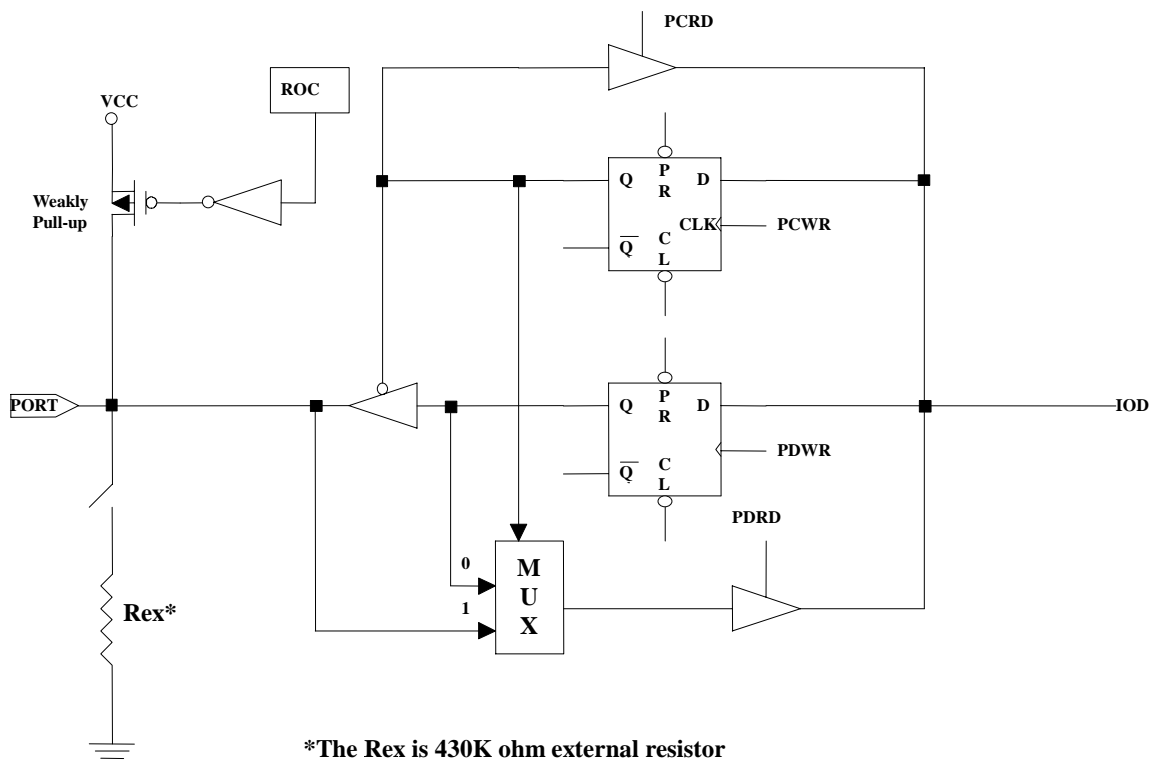

Fig. 8 The Circuit of I/O Port with R-option(P50,P51)
Setting the ROC to "1" will enable the status of R-option pins (P50~P51) that are read by the controller. Clearing the ROC will disable the R-option function. If the R-option function is selected, user must connect the P51 pin or/and P50 pin to VSS with a 430KΩ external resistor (Rex). If the Rex is connected/disconnected, the status of P50 (P51) is read as "0"/"1". Refer to Fig. 8.
The I/O registers and I/O control registers are both readable and writable. The I/O interface circuits for Port 5 and Port 6 are shown in the following Figures 6, 7(a), 7(b), 7(C) and Figure 8.